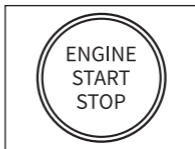

Figure 3.1.5
- If your vehicle is equipped with a keyless start system and the ignition switch is an "engine start-stop" button (See Figure 3.1.5), press the ignition button until the car is in the "ON" Mode. Do not press the brake while pressing the ignition button or you will start the car instead of putting it in the "ON" position.